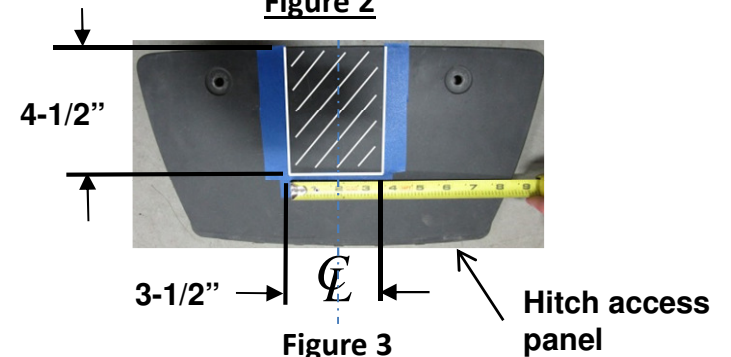

Figure 3
9. **Trim hitch access panel** – using a tape measure, marker, and a utility knife, cut a notch in hitch access panel approximately 3-1/2" wide x 4-1/2" deep. **See Figure 3.**
*** Or return hitch access panel and (2) push pin rivets to vehicle owner.**